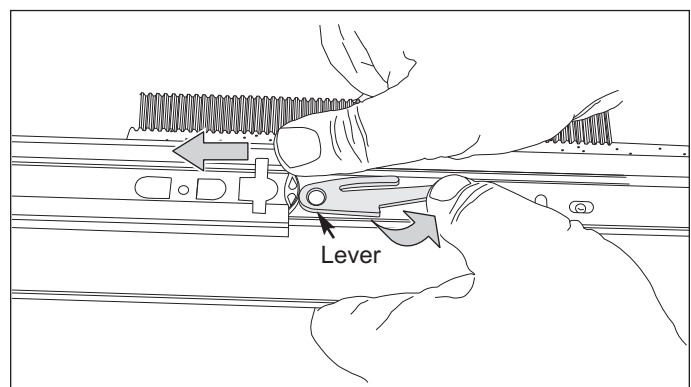

Figure 4-13. Disconnect Center Slides
3. Separate slide rails by moving inside lever of slide rail. The slide rail will now separate by pulling straight forward and out (See Figure 4-13).